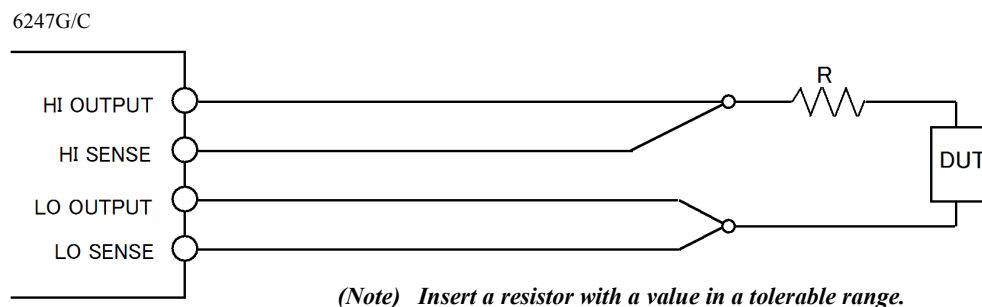

Figure 5-5 Preventing 6247G/6247C Oscillation
4. If the oscillation does not stop even if the cables are the shortest possible, insert an allowable resistor for the DUT as shown in Figure 5-5.
① Wire HI OUTPUT and LO OUTPUT in twisted pairs.
② Wire HI SENSE and LO SENSE in twisted pairs.